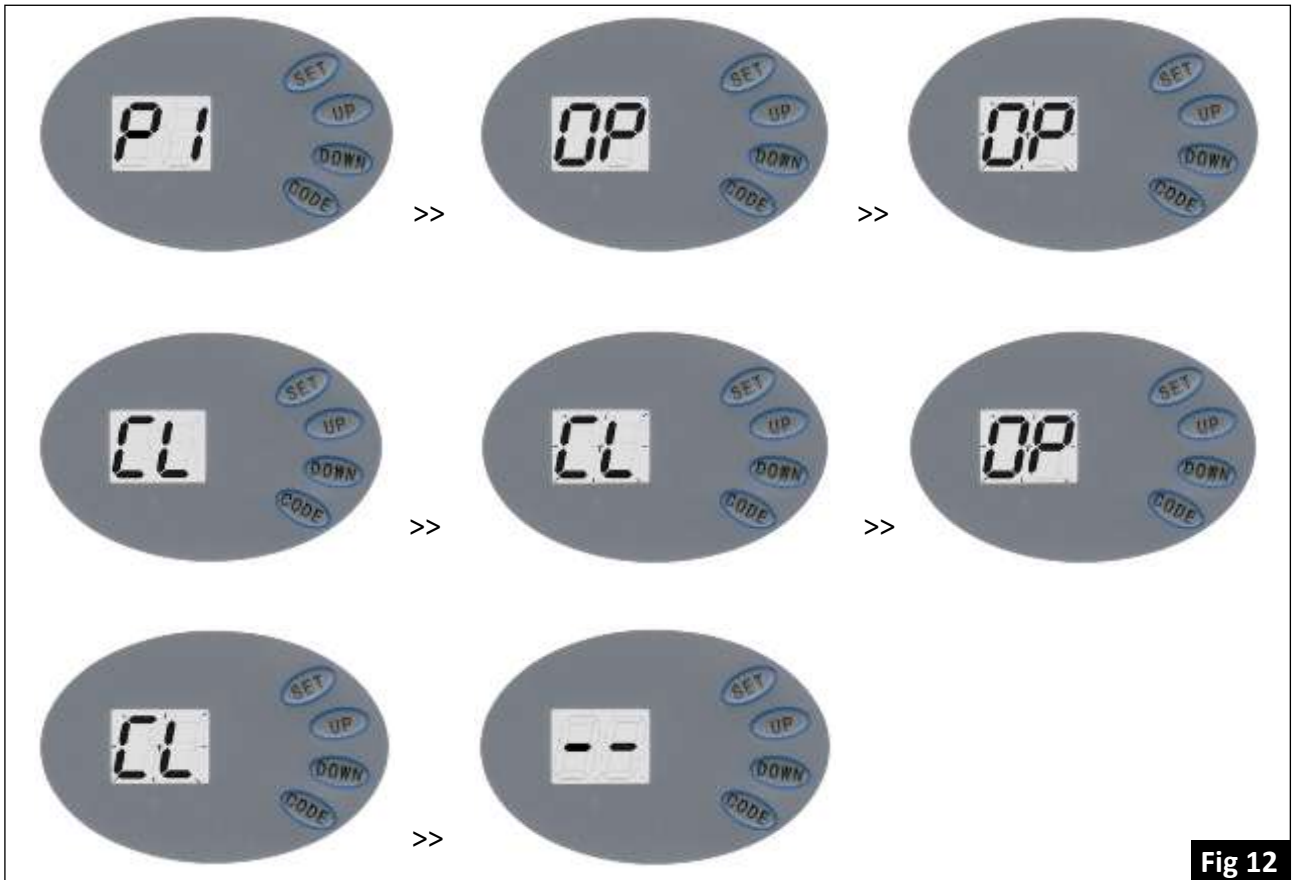

Fig 12
- 15.1 Press and hold the "Set" button until "P1" is displayed on the LED Screen (Fig.12)